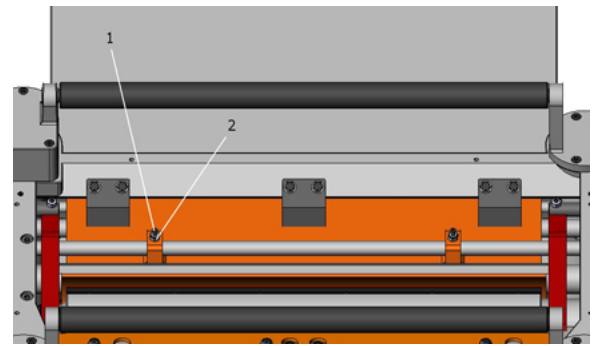

Fig. 25
2. Loosen screw (1) and nut (2). Turn the screw to the right so that the pressure bar moves upward. (Fig. 25).